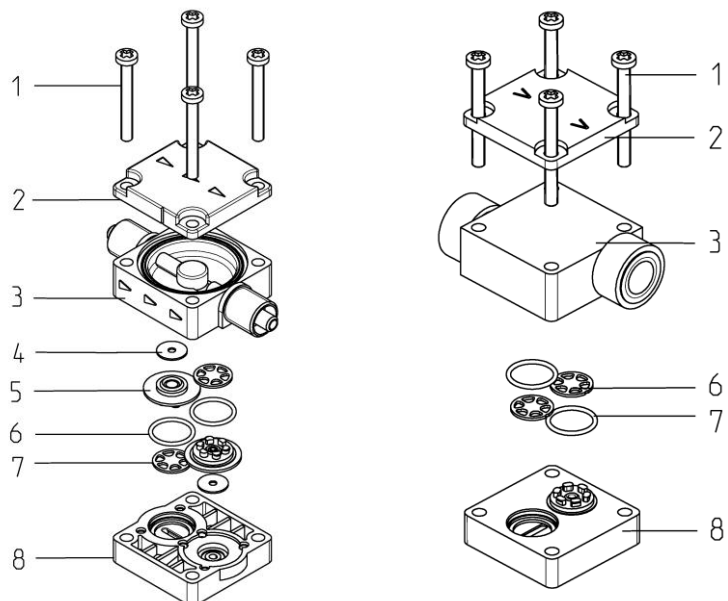

Fig. 55: Head, KT, TT
2. Rinse connecting plate (3) and intermediate plate (8) and wipe with a soft cloth. Blow dry with compressed air
3. Remove valve seats (5) carefully. The sealing washers (4) are not present in the FT head, see Fig. 55
4. Remove O-Rings (6) and valve disk (7).